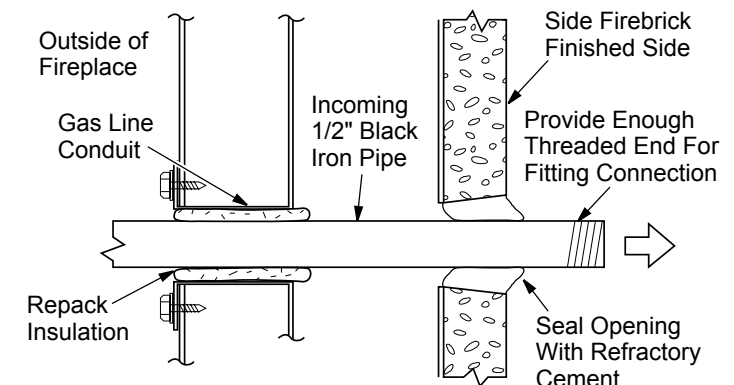

Figure 14 - Running Gas Line
3. Run gas line into the fireplace through the rear at 11¹/₄" from the floor and through gas line conduit sleeve (if using a raised platform, add height). Provide sufficient gas line into fireplace chamber for fitting connection (see Figure 14).